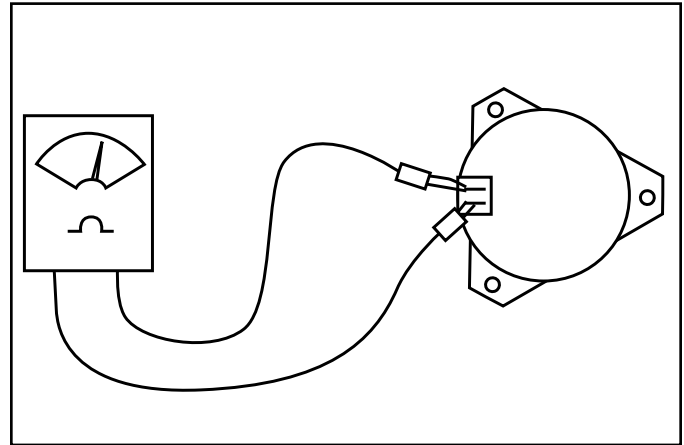

Fig. 168
4. Connect the meter lead wires to the terminals in the clutch connector (Fig. 168).